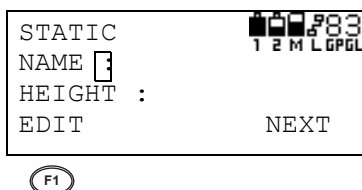

Figure 3-9. Press F1 to Input Information
1. On an input screen, press **F1** (EDIT) to initiate the input mode (Figure 3-9). Letter groups corresponding to the function keys display at the bottom of the screen.